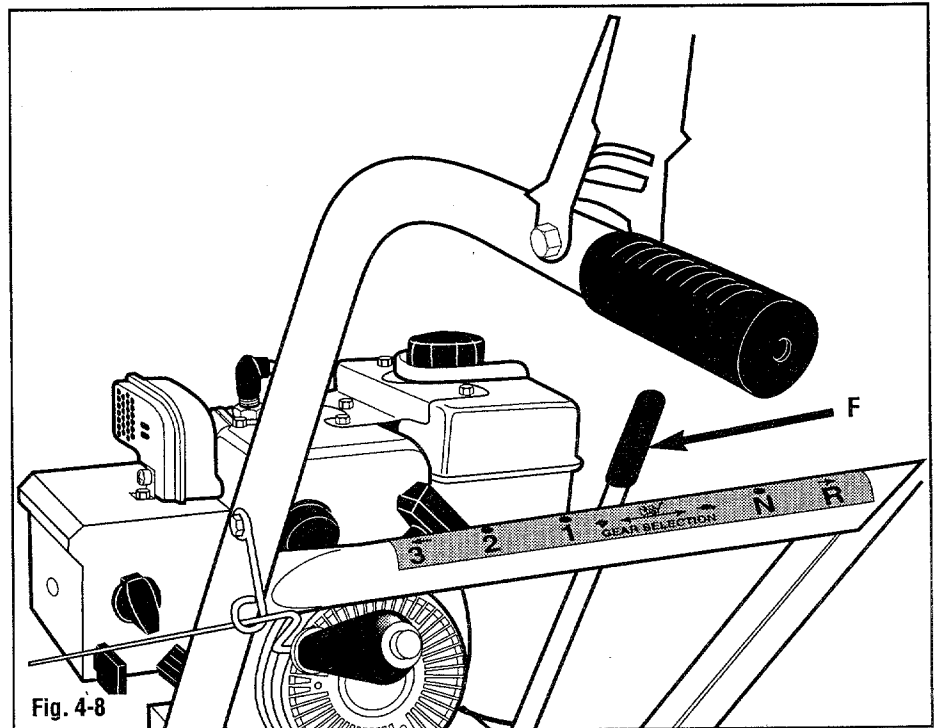

Fig. 4-8
3. Move the gearshift lever (F, Fig. 4-8) into the "1", or first gear, position.
Transmission damage could occur if the gearshift lever (F, Fig. 4-8) is moved and the unit is in motion. Carefully follow the instructions below.
2. Move the gearshift lever (F, Fig. 4-8) into the desired position.
2. Move the gearshift lever (F, Fig. 4-8) into the neutral position.